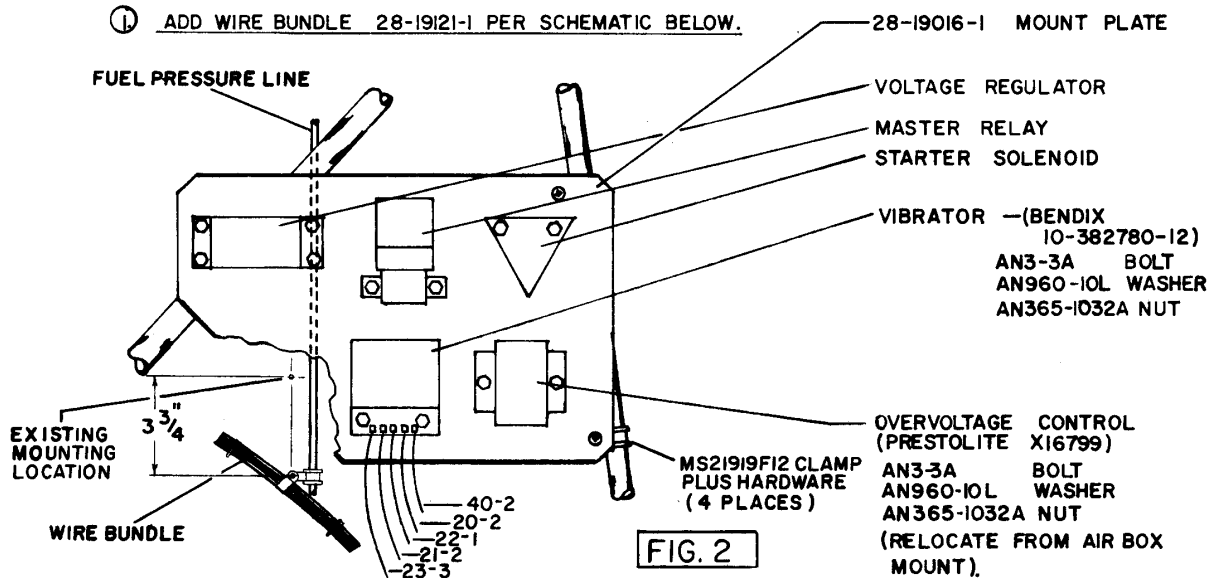

FIG. 2
4. Assemble 28-19016-1 mount plate and components (Ref. figure 2, page 3, and drawing 28-19122, dated 6/25/80, supplied with kit).
5. Relocate fuel line clamp and wire harness clamps (2) (Ref. figure 2).
- (c) Seal original mounting hole drilled in the firewall with (1) AN515-8R6 screw, (2) AN960-8L washers, and (1) AN363-832 nut. Install with bolt head on cabin side of firewall.
13. Install 28-19016-1 mount plate (Ref. figure 2).